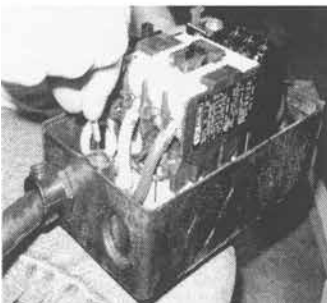
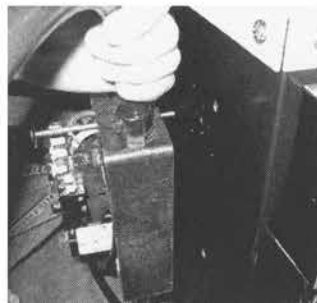

fig 3
fig 4
Insert (1) pan head screw thru the top center of the black switch panel. (fig 3). Using a phillips screwdriver, push the pan head screw thru the side of the base leg. (fig 4).